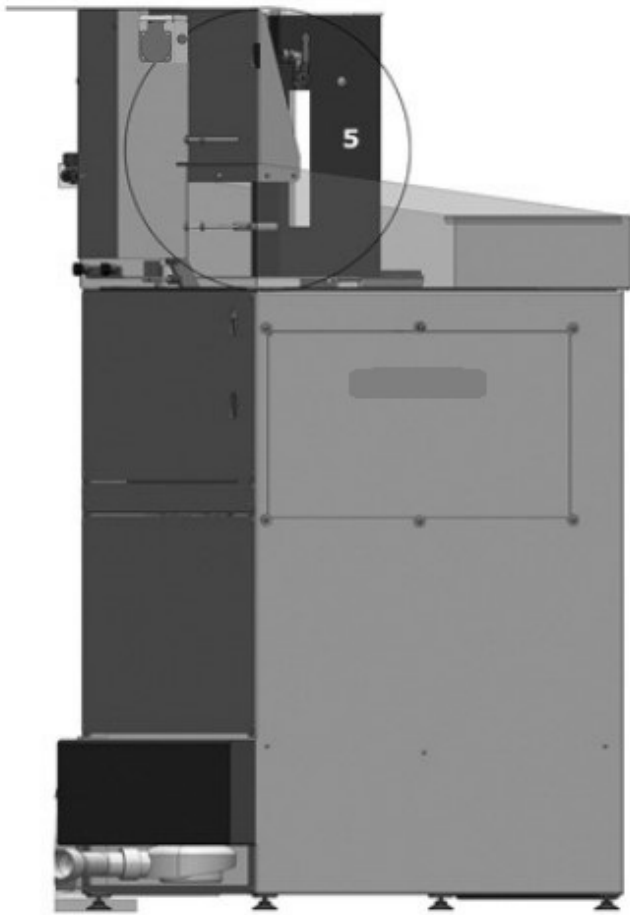

Fig. 5
- Attach the TurboWash to the rear left of the rear wall of the washing station Fig. 5, 6, 7 using the holes provided for this purpose.